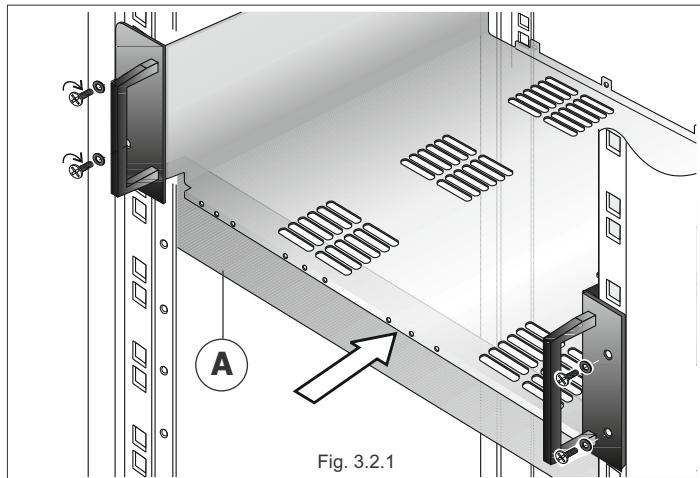

Fig. 3.2.1
- The supporting modules-cage for the amplifiers (see figure 3.2.1) must always be mounted on the supporting brackets provided for this purpose (detail [A]) included in the supply.